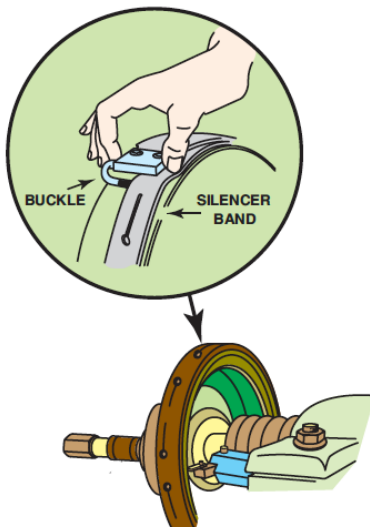

Figure 14. The silencer band keeps the tool bit from chattering.
STEP 1 Mount the drum on the lathe and install the silencer band. Figure 14.